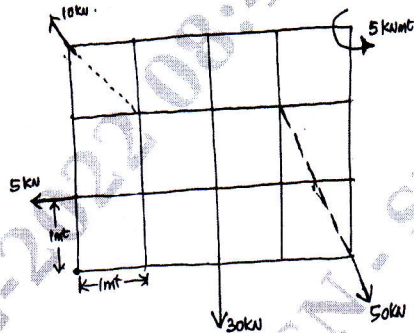

Fig Q6(b) (12 Marks)
b. Determine the magnitude, direction and position of the Resultant of forces shown in Fig Q6(b).